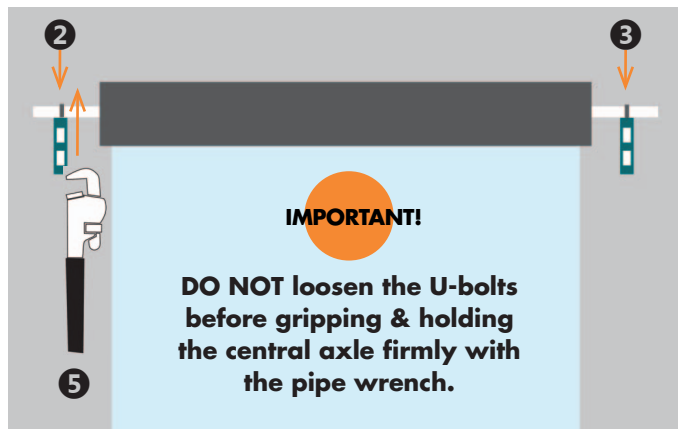

FIG.6 VIEW INSIDE LOOKING OUT
2. Position yourself so you are on the left hand (LH) side of the door VILO, (LH side as viewed from inside looking out).
3. Slightly loosen the first U-bolt over the central axle (See Fig.6. Item 3 over page).
4. Apply the pipe/stilson wrench to the central door axle and hold firmly (See Fig.6, Item 4 over page).
5. Slightly loosen the second U-bolt (See Fig.6, Item 5 over page).